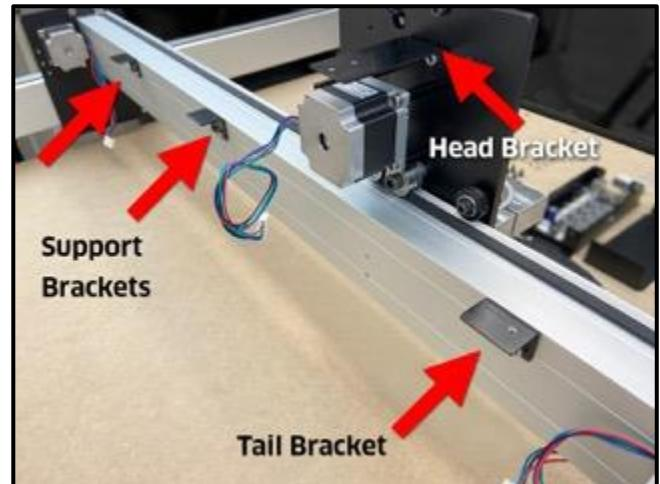

Figure 6-5
4. Repeat with the second support bracket in the center of the X-rail. See *Figure 6-5*.
5. Use the 3mm hex key and two (2) M4x6mm socket head cap screws to attach one (1) drag chain tail bracket to the back of the X-rail closest to the Y1-carriage. See *Figure 6-5*.